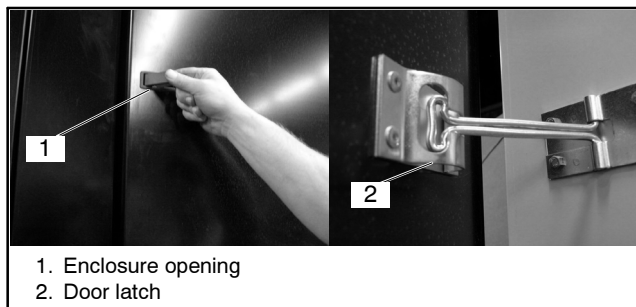

Figure 1 Open Enclosure and Secure Doors
1.1.1 Secure the enclosure doors. See Figure 1.